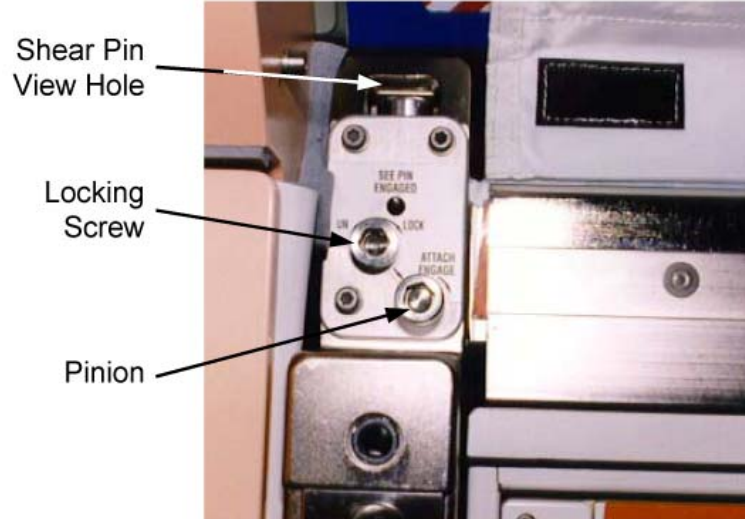

Figure 25.- Upper Attach Mechanism (Left Side).
- NOD1D4 15.1 Loosen left locking screw 10 to 12 turns, or until threads completely disengage (Ratchet, 3/8" Drive; 6" Long, 3/8" Hex Head, 3/8" Drive). Refer to Figure 25.